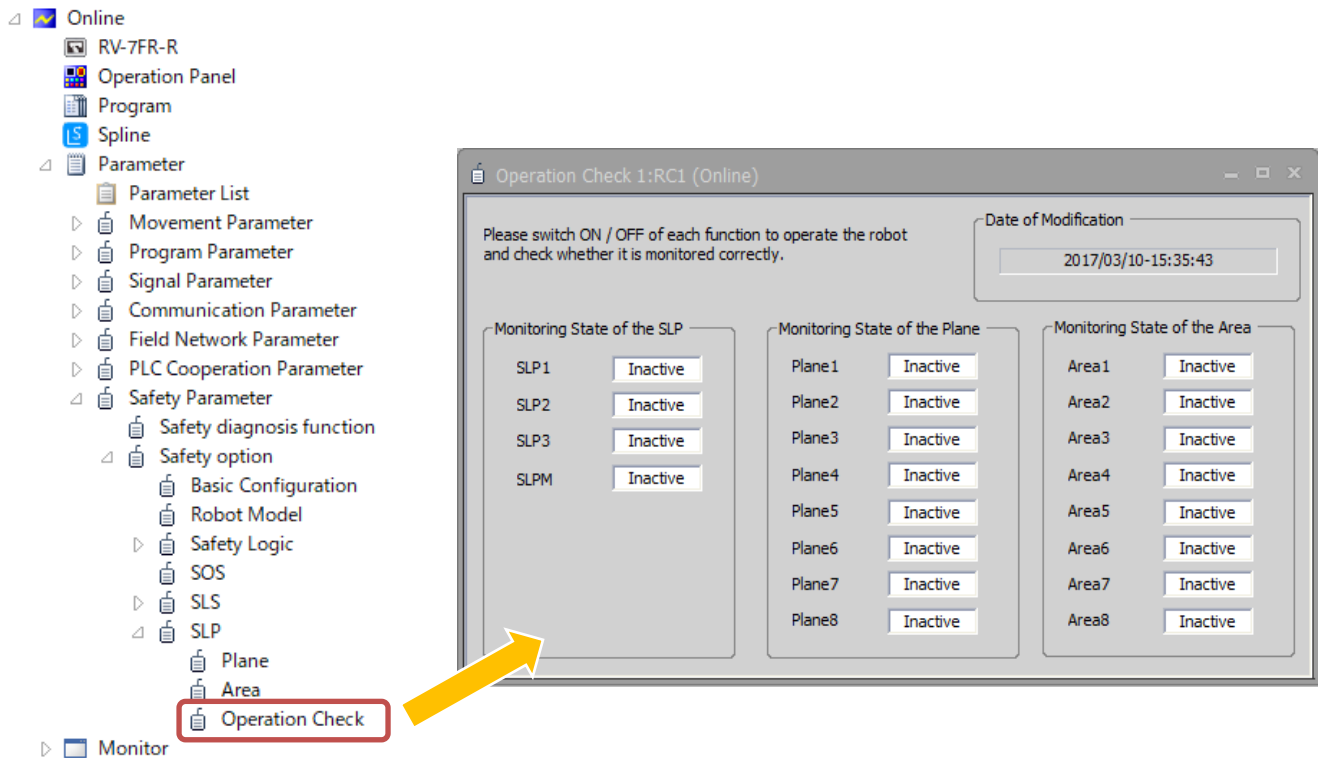

Fig. 4-66: Operation check
- In the SLP prior stop state, errors are shown for "Monitoring State of the Plane" and "Monitoring State of the Area" in the [Operation Check] window of RT ToolBox3. (Refer to Fig. 4-66.)
② When the robot is run by the jog operation